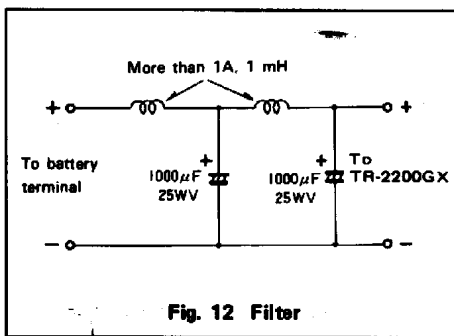
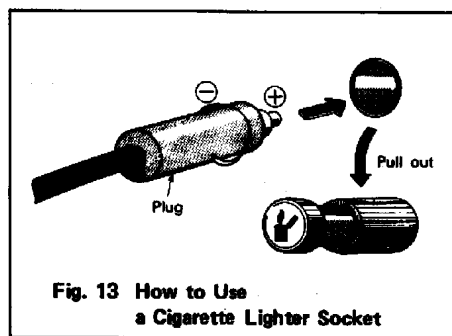

Fig. 12 Filter
Fig. 13 How to Use a Cigarette Lighter Socket
1. For mobile station operation, the unit can be connected to a car battery (12V DC). In this case, use a line filter between the unit and the battery to prevent noise generated from the power system (See Fig. 12). To supply the power from car battery, the unit may be connected to the cigarette lighter socket installed in the car (See Fig. 13).